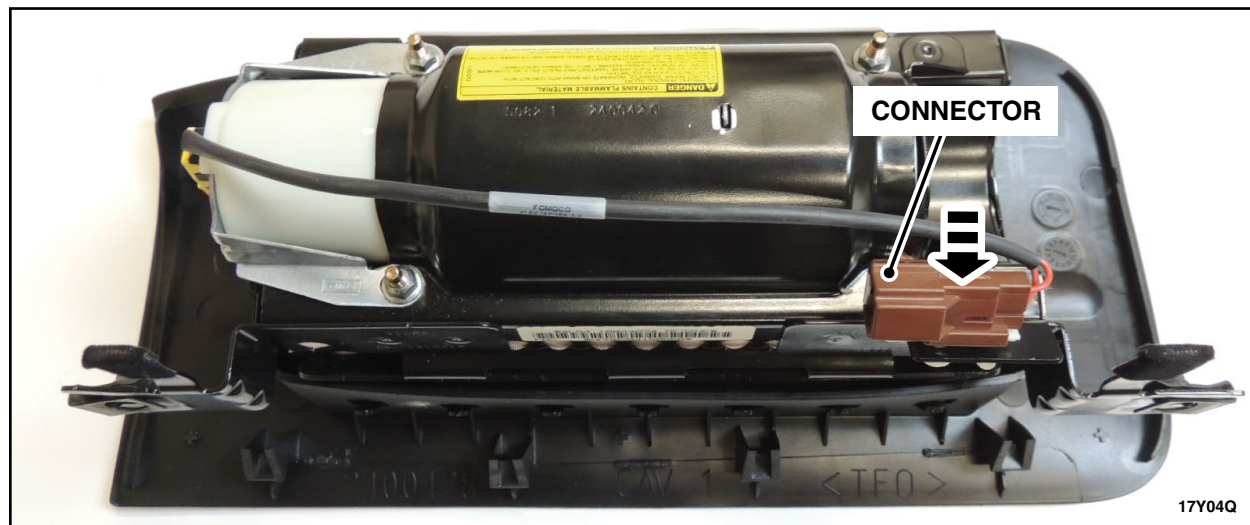

FIGURE 17
16. Install inflator harness connector to the air bag assembly bracket. See Figure 17.